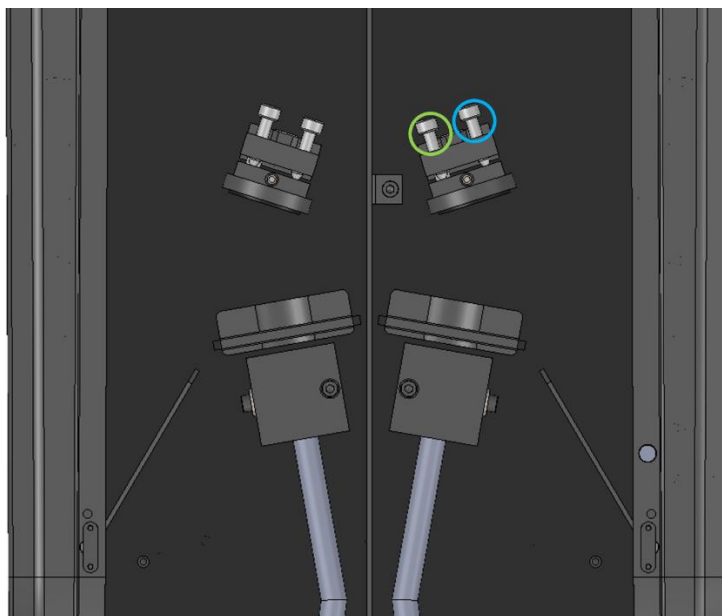

Figure 39: Location of adjustment setscrews on FS5 LLG launcher (SC-50R).
3. Open the SC-50R lid and starting with the thumbscrew circled in green in Figure 39 rotate the screw one full turn. Close the lid to check the effect on the signal rate. It is worth waiting for ten seconds to get an idea of the effect the change has made to the signal level:
<p>Figure 39: Location of adjustment setscrews on FS5 LLG launcher (SC-50R).</p>